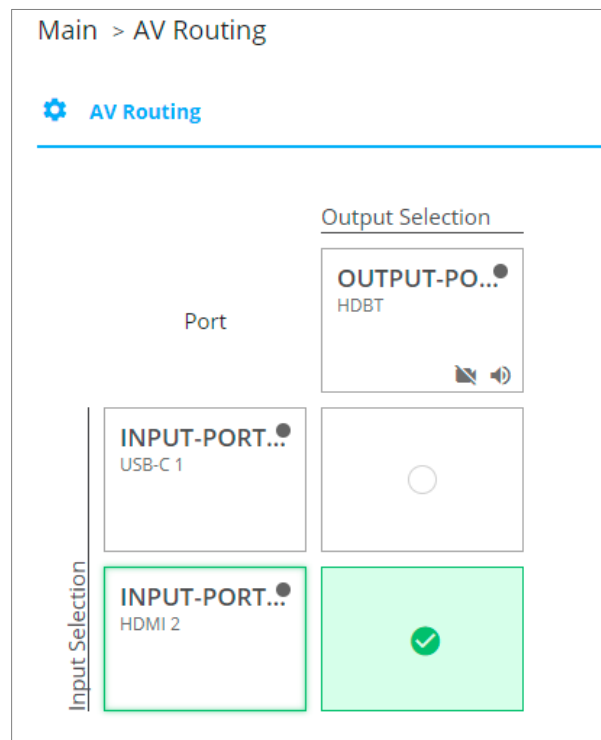

Figure 12: Main > AV Routing Page
- On the Main > AV Routing page (Figure 12), click the audio icon under the output name and mute or adjust the audio as needed.
- On the Main > AV Routing page (Figure 12), click the video icon under the output name. The video output is turned off and the connected display goes blank.